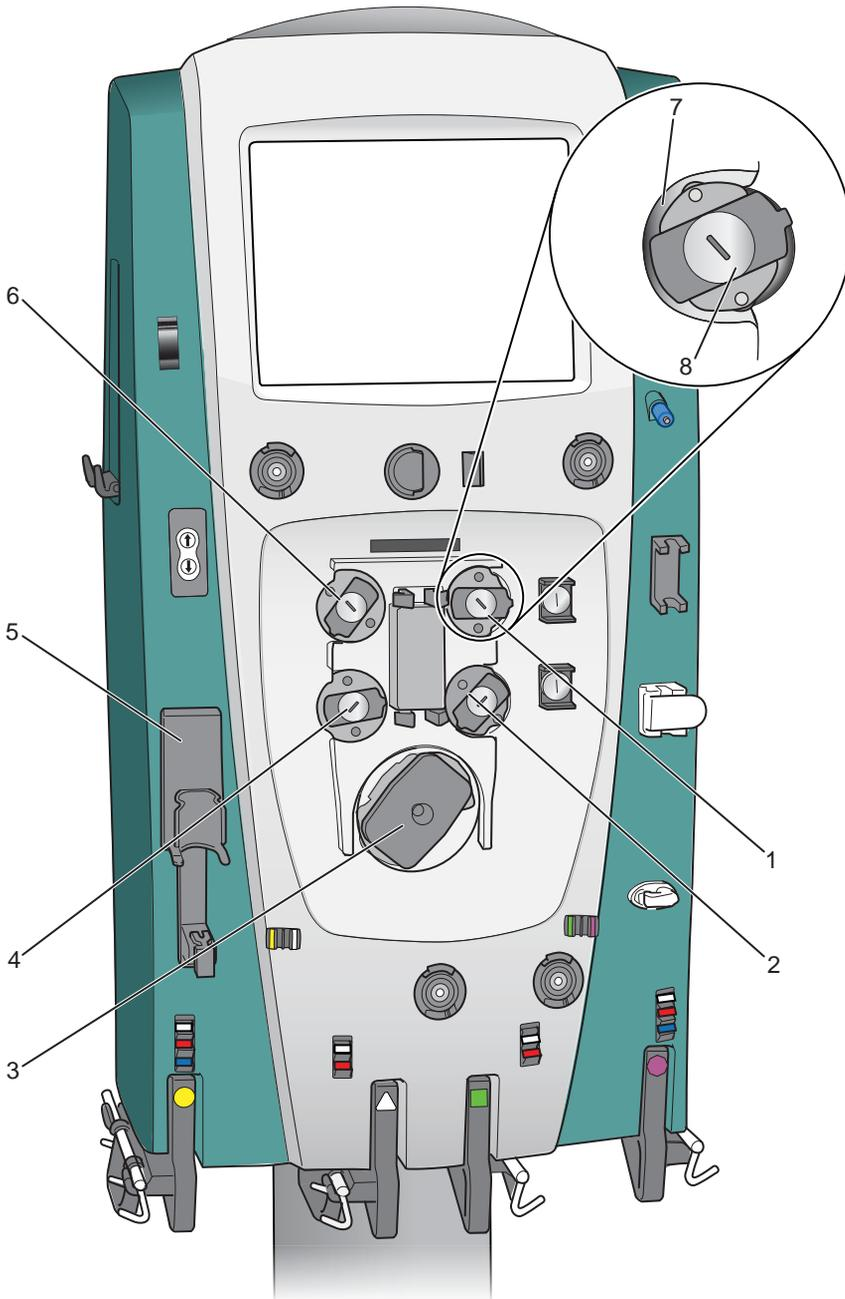

Figure 2:1 Pumps
- Figure 2:1 on page 2:4 shows the pumps.
- Figure 2:2 on page 2:6 shows the pressure components.
- Figure 2:3 on page 2:8 shows sensors and clamps.
- Figure 2:4 on page 2:10 shows the scale components.
- Figure 2:5 on page 2:12 shows miscellaneous components.